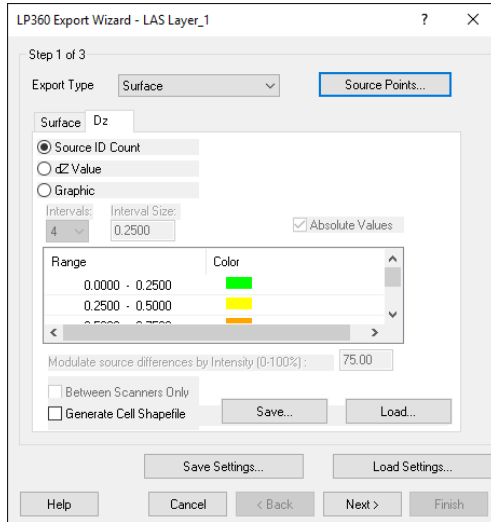

Figure 1 - Export Wizard - dZ Image: Point Source ID Count
7. Under the Dz tab specify Source ID count (Figure 1).